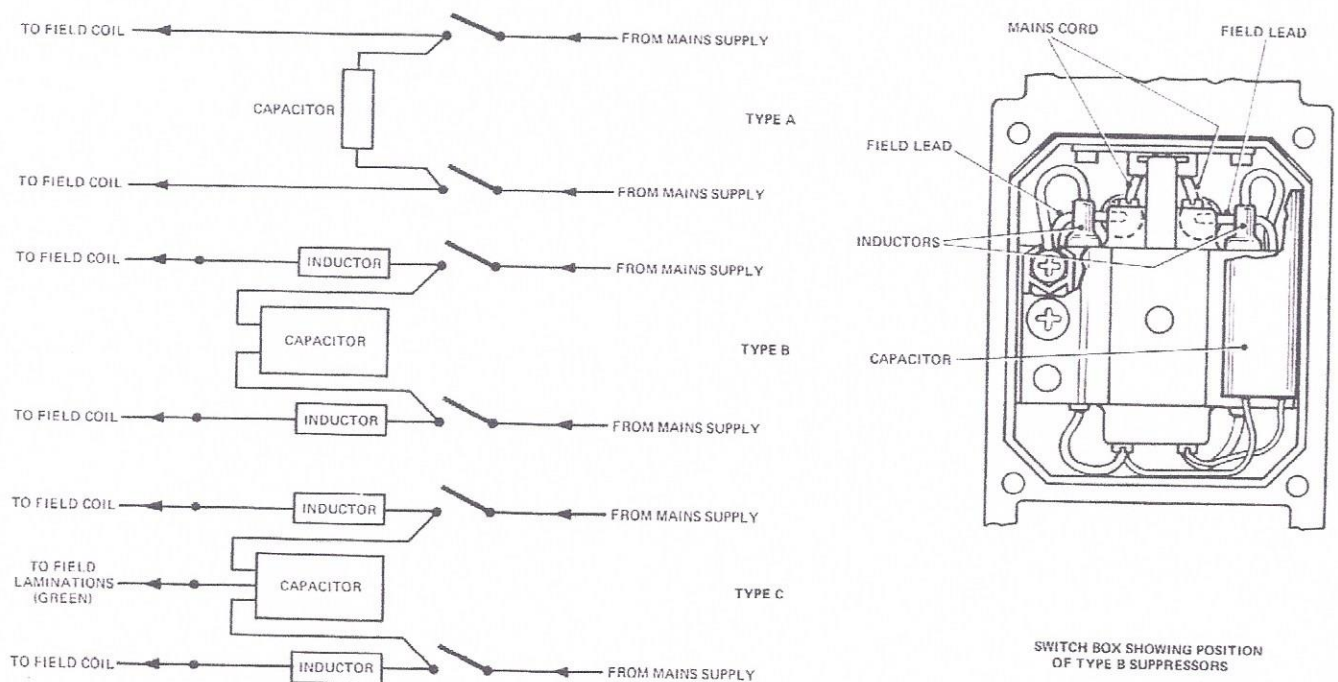

Figure 4 Suppression Diagrams
7.8.2 If there is a requirement only for radio interference suppression then a  $0.07 \mu\text{F}$  Capacitor (Part Number 00941) should be fitted across the field lead connections to the Switch (See Figure 4, Type A). The Capacitor is positioned between the end of the switch and the Switch Box Liner, and a 30mm ( $1\frac{1}{4}$ " length of self-adhesive Foam Rubber Strip (Part Number 00931) should be stuck to the Capacitor to prevent it from chafing against the Switch.
- 7.8.3 If there is a requirement for both radio and T.V. interference suppression then a Suppressor Kit (Part Number 00945) should be fitted (See Figure 4, Type B).
- 7.8.11 A few Hammers are fitted with a Suppressor Kit which includes a connection to the Field Coil laminations (See Figure 4, Type C). This Kit is fitted in the same manner as that for the Type B Kit, with the addition of an extra Connector to join the extra capacitor lead to the Field Lamination Lead.
- 7.8.12 New Hammers have Connectors in the Terminal Housings, which replace the Connectors of 7.8.7. The positions of the Suppressor Components are shown in Figure 4 (illustration).
- 8.2.7 Connect the supply leads to the Switch terminals furthest from the handle and the Field Coil leads to the terminals at the other end. (When Radio and T.V. interference suppressors are fitted, refer to typical wiring diagrams shown in Figure 4, and Section 7.8. These vary according to National requirements. In case of doubt refer to the nearest Kango Agent).